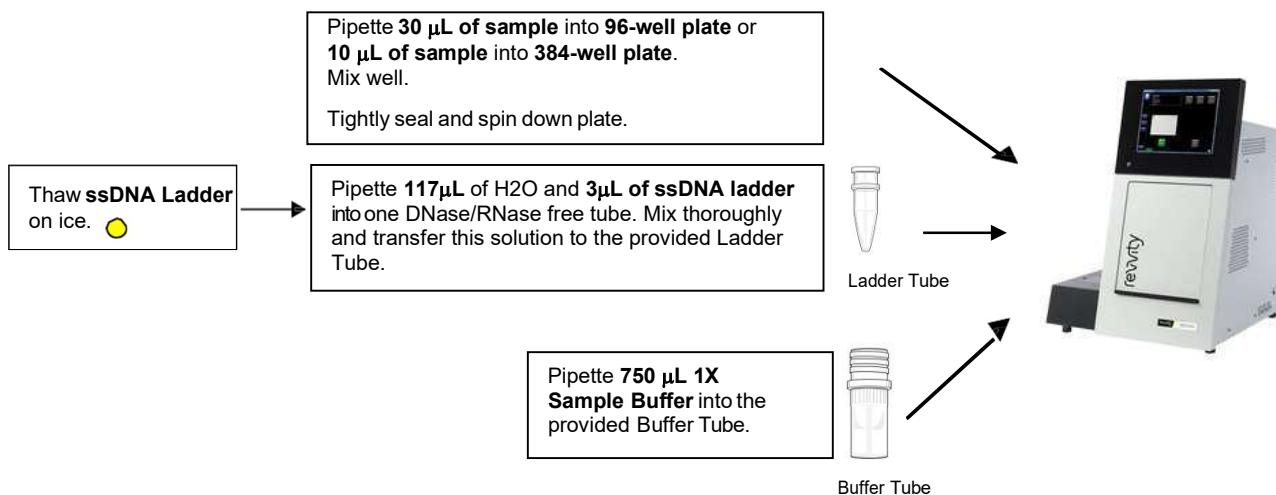

Figure 3. Sample, Ladder Tube, and Buffer Tube Preparation
2. Prepare sample, Ladder Tube, and Buffer Tube according to **Figure 3**.